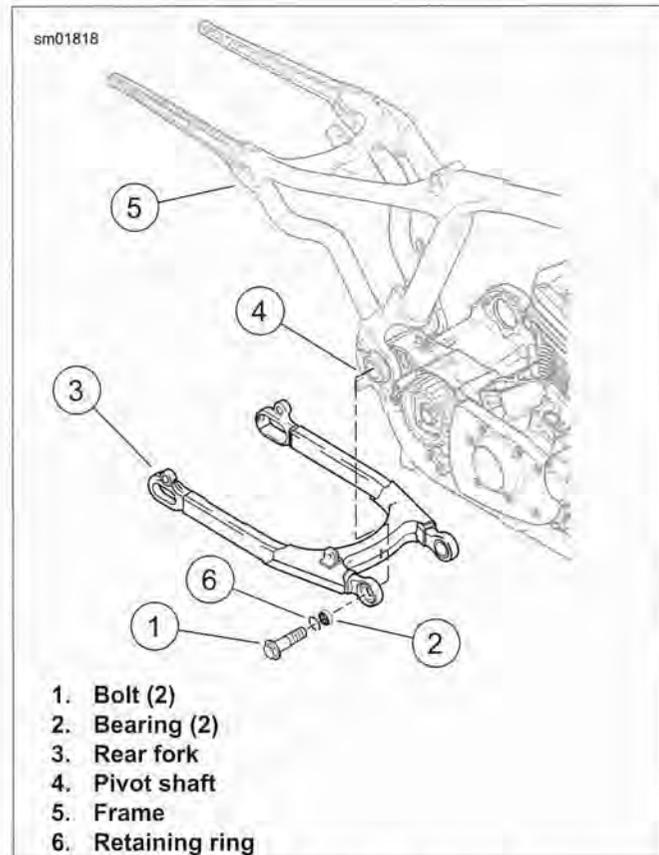

Figure 2-162. Rear Fork Assembly
13. See Figure 2-162. Support rear fork (3). Remove rear fork/engine mount bolts (1) and pull fork assembly from frame.
See Figure 2-162. Remove pivot bearings (2) only if replacement is required.
2. See Figure 2-162. Make sure pivot bearing retaining ring (6) is not bent or damaged. If it is, replace it with a **new** retaining ring. Make sure retaining ring is fully seated in the groove in each bearing (2).
3. Check that rear fork (3) is not bent, twisted or cracked. Replace if damaged.
1. See Figure 2-162. If necessary, press **new** bearings (2) into position in rear fork, using BEARING REMOVER/INSTALLER TOOL (Part No. HD-46281):
2. See Figure 2-162. Holding rear fork assembly in position, install rear fork/engine mount bolts (1). Tighten to 60-70 ft-lbs (81.4-95.0 Nm).